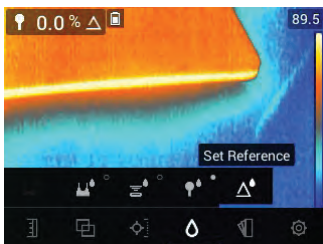

Figure 7.12 Selecting the 'Set Reference' mode.
1. Select the 'Set Reference' mode from the menu (*Moisture mode/Set Reference* ); see **Figure 7-12**. This mode is only available for pinless measurements, including the optional MR12 Ball Moisture probe.